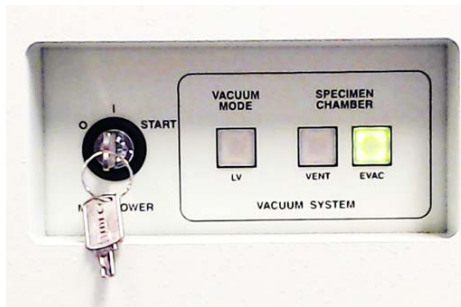

Figure 3 Front panel Vacuum Control: **NEVER TURN THE KEY**
4. Once your sample is prepared, mounted, and ready to install, select and hold in the ‘Vent’ button on the vacuum mode control until it flashes (figure 3). At this time you may ‘open’ the camera. (Please see “Instructions for using the IR-Camera” on page 11).